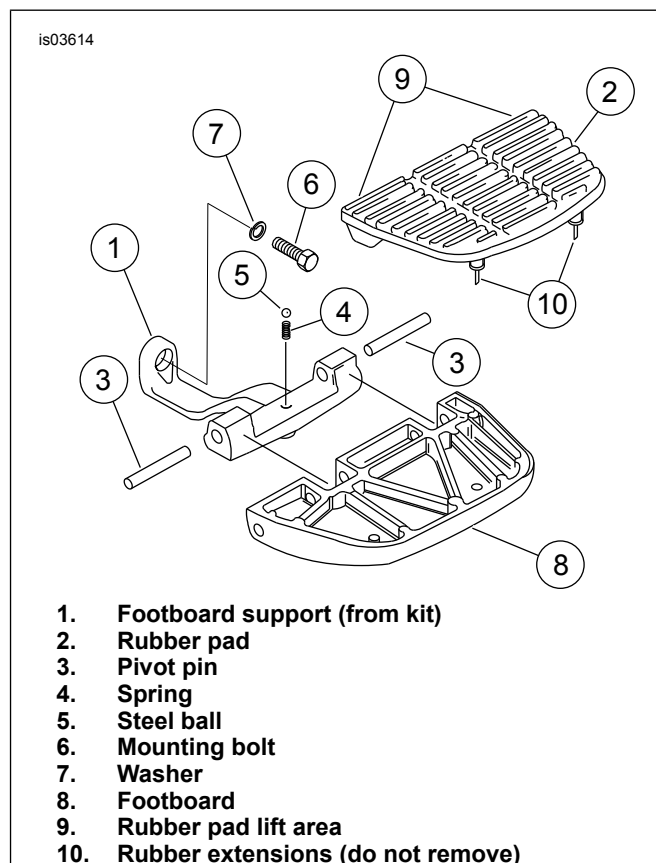

Figure 1. Footboard Mounting
2. See Figure 1. Remove footboards (8) from footboard supports (1) by carefully lifting up on the inside corners of the footboard's rubber pad (9) to expose the pivot pins (do not fully remove the footboard pad from the footboard as it would be difficult to reinstall).
3. Remove pivot pins (3) by pushing pins toward the outside of the footboard until the footboard is free of the mounting lugs. Removing the footboard will expose a spring (4) and steel ball (5) in the footboard support. These pieces, as well as the pivot pins, will be re-used when installing the new accessory footboard supports.
4. Install the new footboard supports (1) in the desired height position using the washer (7) and mounting bolt (6) saved from Step 1. Tighten mounting bolts to 30-35 ft-lbs (40.7-47.5 Nm).
5. Install springs (4) into the retaining holes in the footboard supports. Rest steel balls (5) on top of springs.
7. Press down on footboards so that pivot holes align and insert pivot pins (3) through footboard and into the two mounting lugs on footboard support. Check to be certain steel ball is seated in detent on underside of footboards.